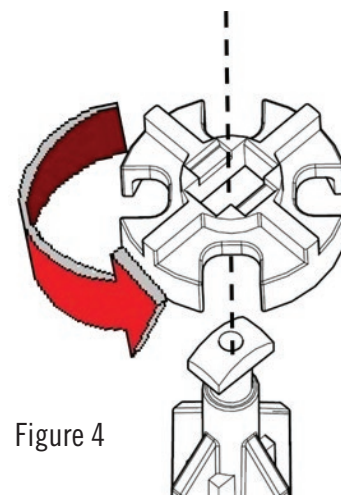

Figure 4
6. Push the Bypass Valve Retainer down slightly and rotate the retainer 90 degrees counterclockwise. This will align the slot in the retainer with the key on the valve, allowing you to remove the retainer (Figure 4).